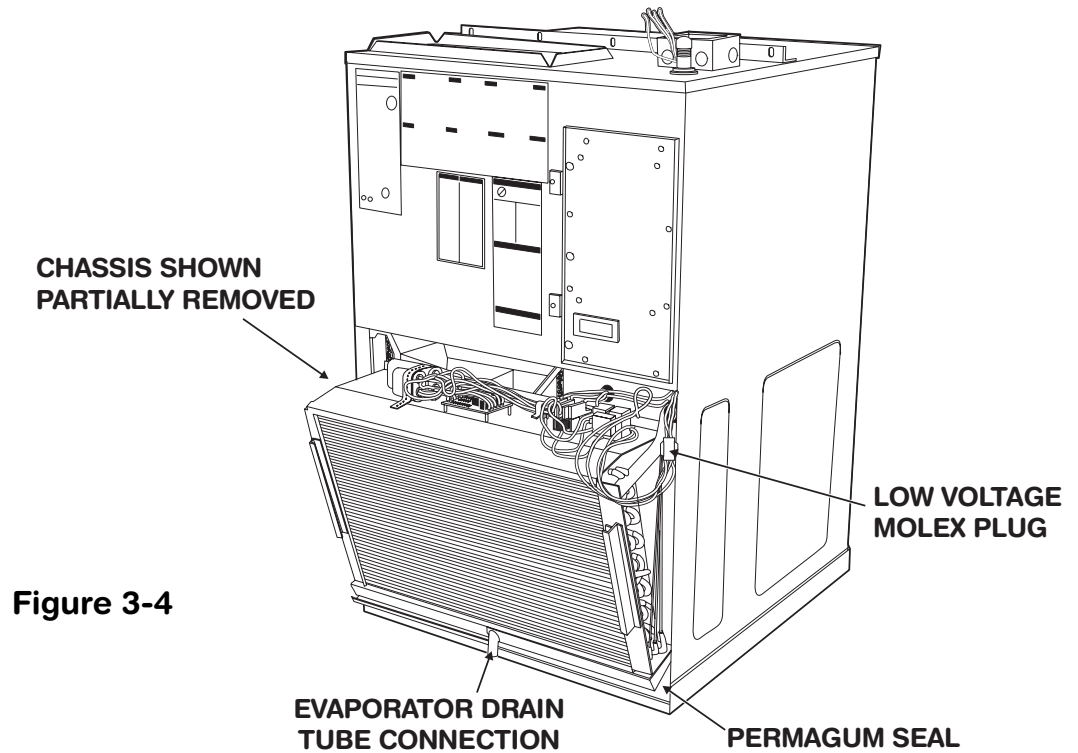

Figure 3-4
8. Remove the permagum seal on the base rails of the chassis (Figure 3-4).
10. Remove the chassis from the front of the unit, pulling it toward yourself (Figure 3-4).